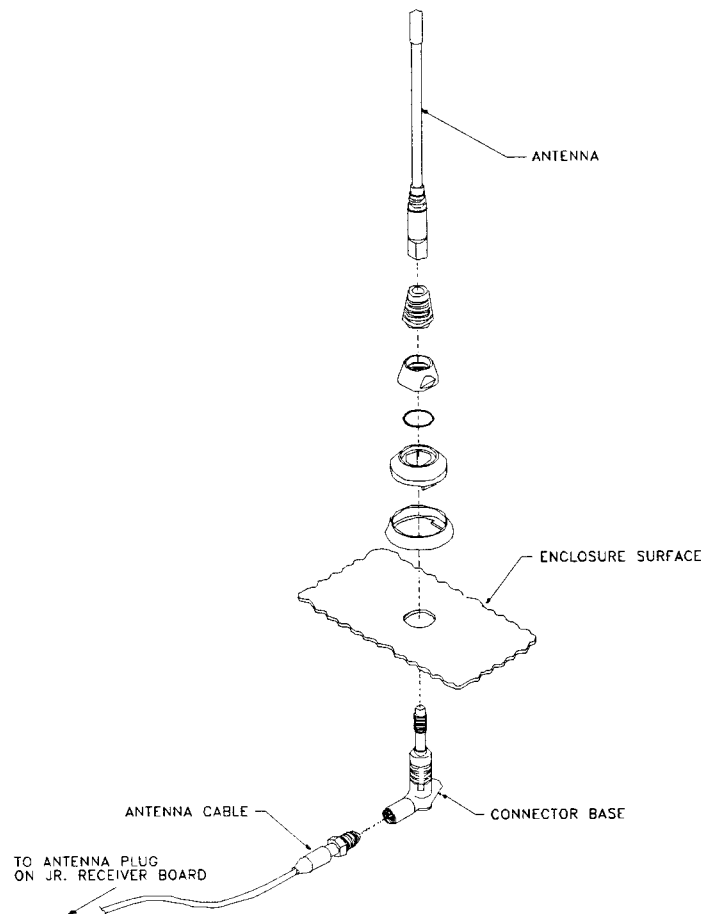

Figure 2.9: PulseStar•jr. External Antenna
3. Use the Figure 2.9: PulseStar•jr. External Antenna to assemble an external antenna.